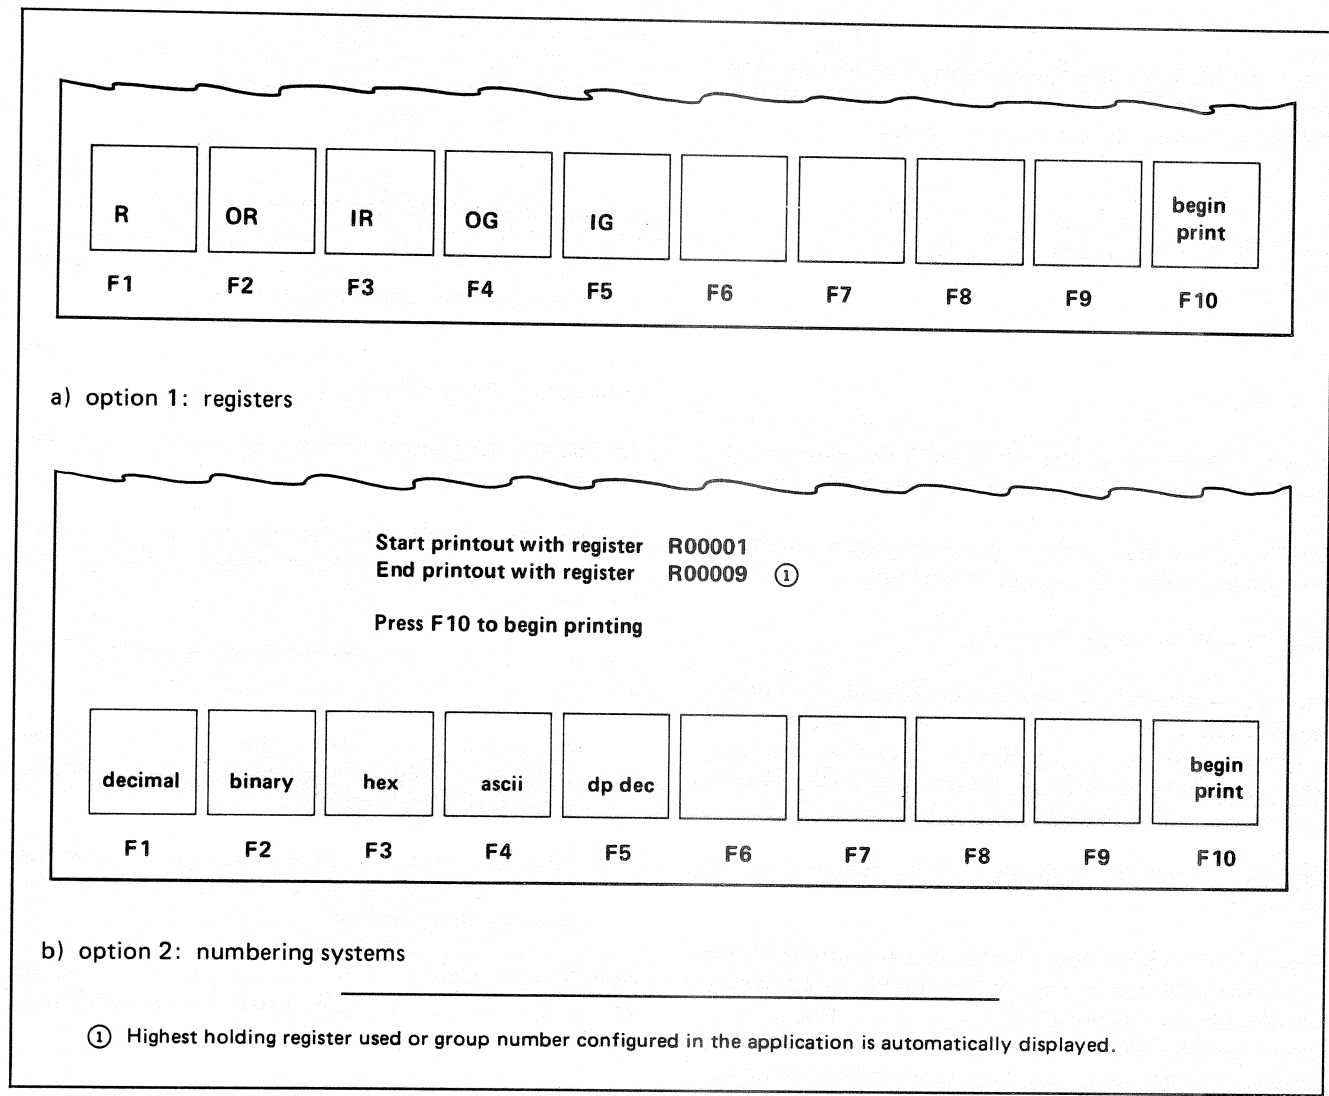

Figure 13-6. Register Selection Options
**Step 4** — Press the desired function key from the selections available, as shown in Figure 13-6.
**Step 5** — Optionally, new starting and ending register or group reference numbers to be printed can be entered by positioning the cursor on the start or end printout lines and entering other reference numbers. (See Figure 13-6(b).)